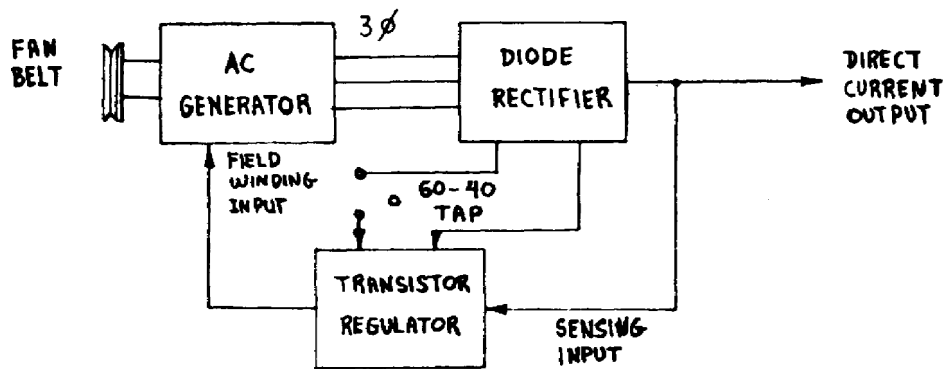

Figure 38. Block diagram of AC charging system.
(1) The output voltage is sensed by the regulator where it is compared to the voltage reference of a zener diode.
(2) If the output voltage of the generator is higher than the zener reference voltage, it causes a transistor to turn ON which reduces the exciter field current. This brings the output voltage down.
(3) If the output voltage of the generator is lower than the zener reference voltage, it causes a transistor to turn OFF which increases the exciter field current. This brings the output voltage up since the magnetic flux in the rotor is increased.
a. Basically, there are three components to be considered in the operation of the AC charging system: the AC generator, diode rectifier, and transistor regulator (fig 38). The AC generator is of the revolving field type (the rotor is the field) so that only two sliprings are needed. The sliprings and brushes are required to carry only low amperage current to control the exciter field winding flux on the rotor.